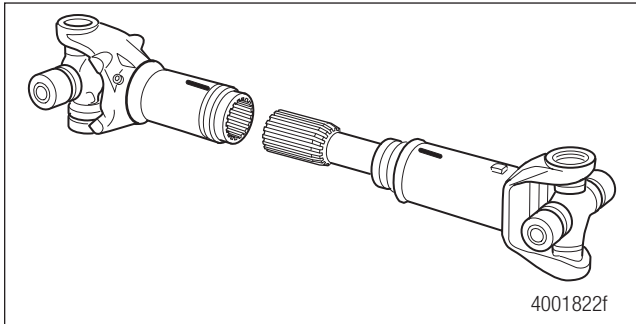

Figure 5.7
4. Pull the slip yoke and slip shaft sections apart. Figure 5.7.